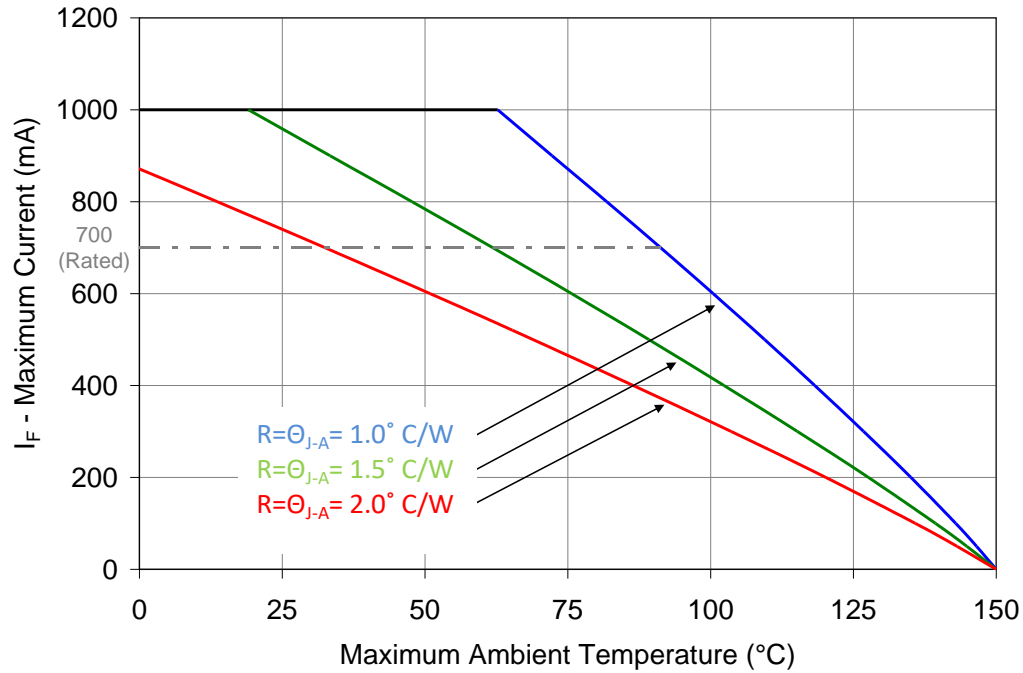

Figure 10: Maximum forward current vs. ambient temperature based on  $T_{J(\text{MAX})} = 150^\circ \text{C}$ .
- Maximum DC forward current (per die) is determined by the overall thermal resistance and ambient temperature. Follow the curves in Figure 10 for current de-rating.